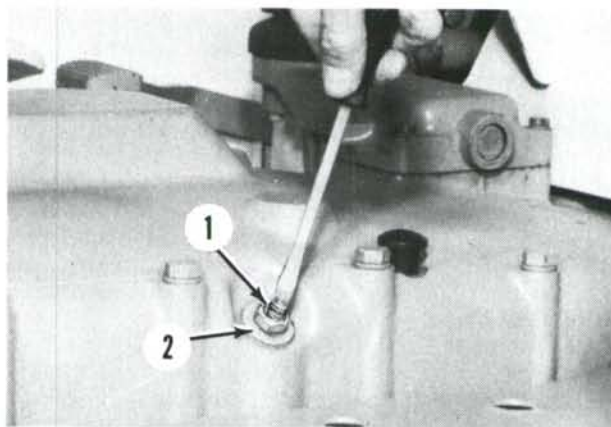

Fig. 206—Remove adjusting screw (1) and plug (2) from left-hand side of transmission cover to gain access to rear planetary brake band adjusting nut.
267. REAR BRAKE BAND. Remove jam nut, adjusting screw (1—Fig. 206) and plug (2) from left side of transmission cover to gain access to rear brake band adjusting nut. Start engine, put range selector in neutral and put power shift in fourth. Increase engine speed until pressure gage (1—Fig. 205) reading reaches 515 kPa (75 psi). Turn brake band adjusting nut clockwise until engine speed drops 25 rpm. Depress clutch pedal, then turn adjusting nut counterclockwise four turns.